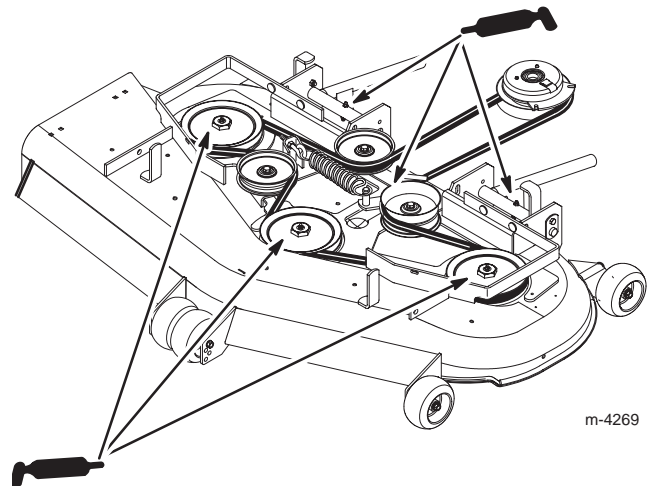

Figure 38
3. Grease the fittings on the 3 spindle bearings (Fig. 38).
4. Grease the idler pulley pivot (Fig. 38).
5. Grease the fittings on the push arms (Fig. 38).